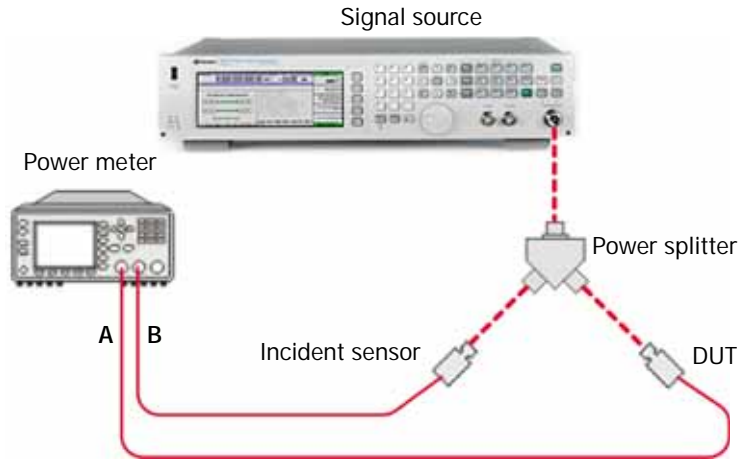

Figure 2-2 Sensor accuracy performance test setup for the N1921/2A (50 MHz to 18 GHz)
- 12 The test equipment setup is as shown in Figure 2-2.